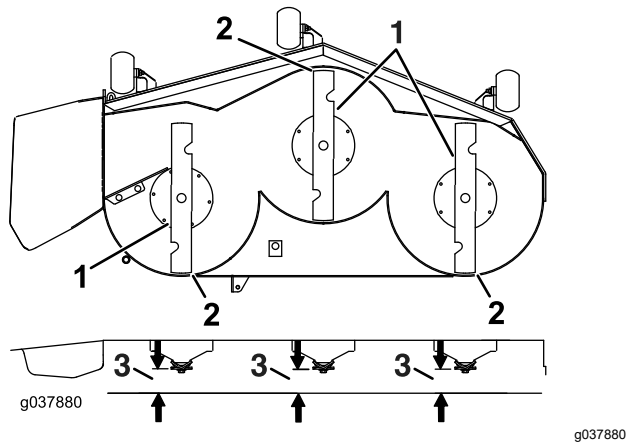

**Figure 92**
6. Measure between the blade tip and the flat surface (Figure 92). If both measurements are not within 5 mm (3/16 inch), adjust the leveling; continue with this procedure.
14. Carefully rotate the blades side to side (Figure 92).